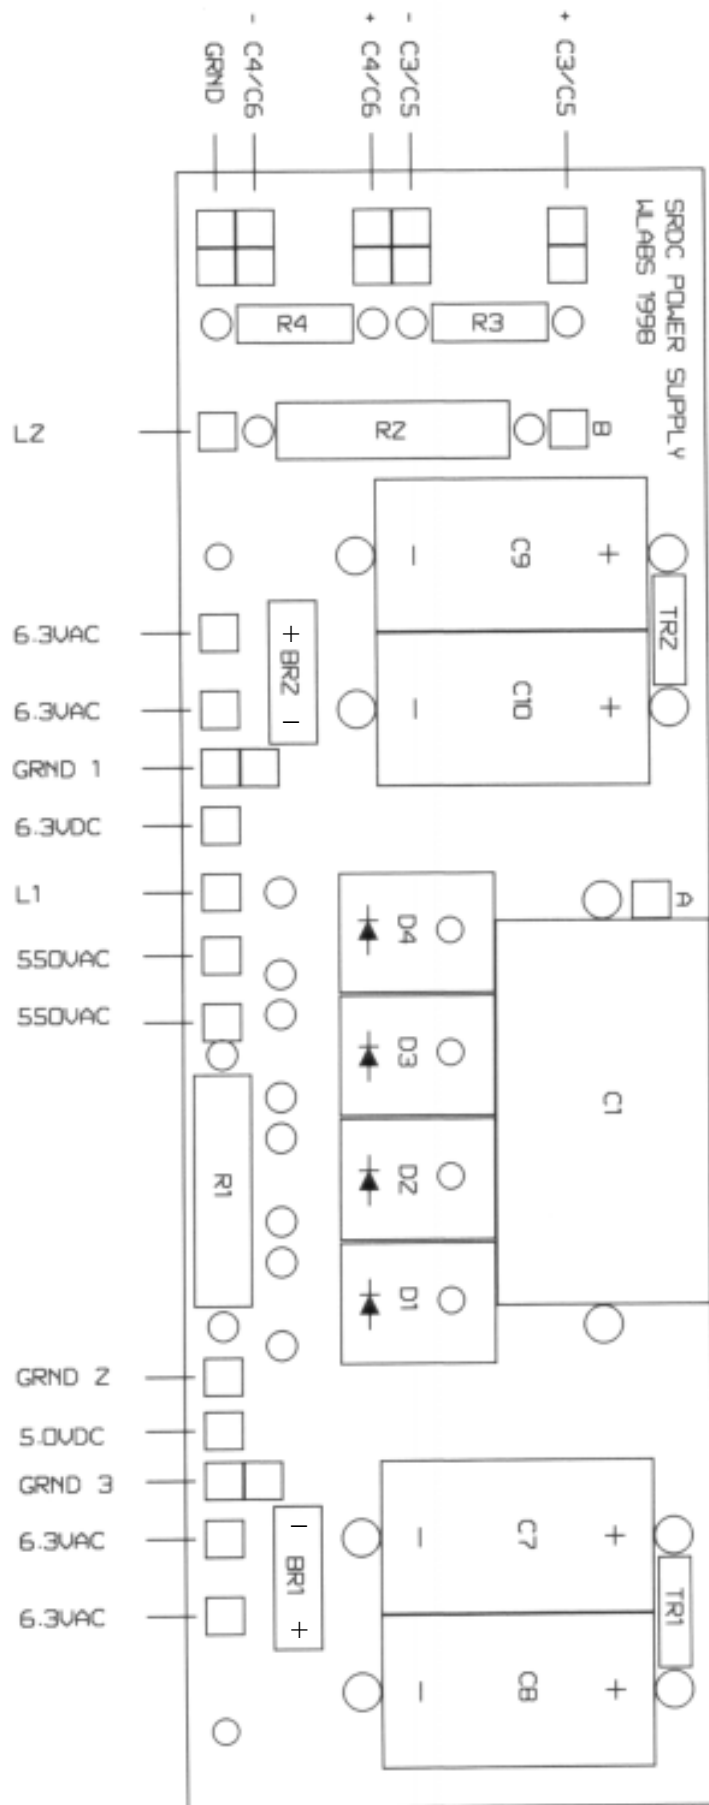

Figure 9
- 7) Refer to figure 9 for the following: In the next steps you will stuff and solder the power supply components onto the SRDC circuit board. The circuit board stuffing diagram is silkscreened on the board indicating the proper position and orientation of the components.
- 8) Refer to figure 9 and the SRDC circuit board stuffing diagram for the following steps.